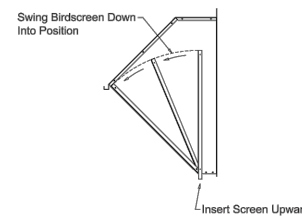

Figure 4 — Placing Birdscreen in Assembled Weather Hood
5. Slide the birdscreen into the bottom of the assembled weather hood through the openings on the underside. See Figure 4. Place birdscreen in the frame and rest on the flanges on each side. Fasten screen to each side using the 5/8" length sheet metal screws.